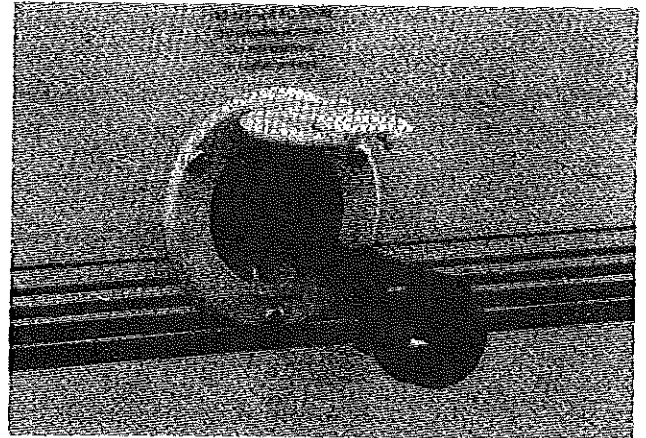

FIGURE 36
43. When the campsite provides an electrical system: Lift up the cable hatch cover, grasp the self-storing power cord plug and pull it out. See Figure 36. Plug the power cord into the campsite-provided outlet. From inside the trailer at the power supply center, set the converter switch to the "CONVERT" position.